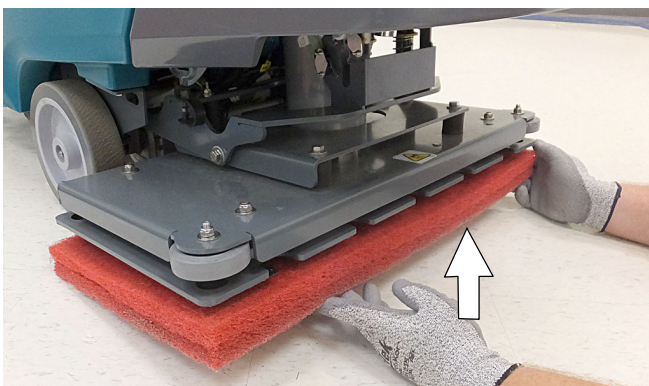

FIG. 15
3. Attach the two pads to the bottom of the scrub head (Figure 15). Make sure pad is centered on scrub head.